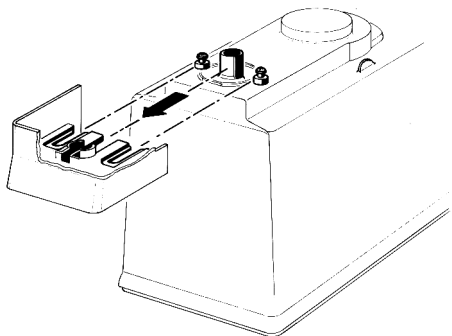

figure 7
- 2 - Take the bowl away from the machine and turn it upside down. Remove the faucet body from the bowl (see figure 7).